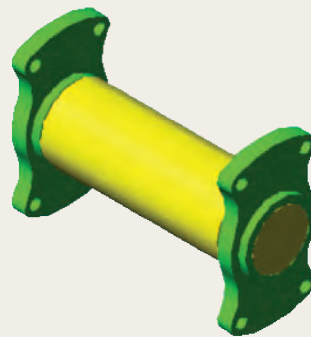

Fig. 10.28 Exercise 2 – a rendering of the holders and roller
- Figure 10.28 is a rendering of a roller between two end holders. Figure 10.29 gives details of the end holders and the roller in orthographic projections. Construct a full-size front view of